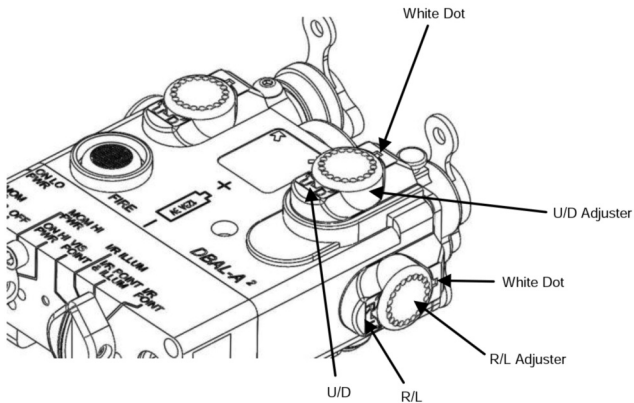

Figure 1. Factory Neutral Preset
1. Turn the U/D adjuster (Figure 1) CW to the natural stop.
2. Turn U/D adjuster (Figure 1) CCW one and one-quarter ($1\frac{1}{4}$) turn.
3. Turn U/D adjuster (Figure 1) CW until the white dot U/D adjuster (Figure 1) on the U/D adjuster U/D adjuster (Figure 1) aligns with the white dot (Figure 1) on the U/D adjuster guard (Figure 1).
4. Turn the R/L Adjuster (Figure 1) marked to the natural stop.
5. Turn R/L Adjuster (Figure 1) CCW one and one-quarter ($1\frac{1}{4}$) turn.
6. Turn R/L Adjuster (Figure 1) CW until the white dot on the R/L Adjuster (Figure 1) aligns with the white dot (Figure 1) on the R/L Adjuster Guard (Figure 1)